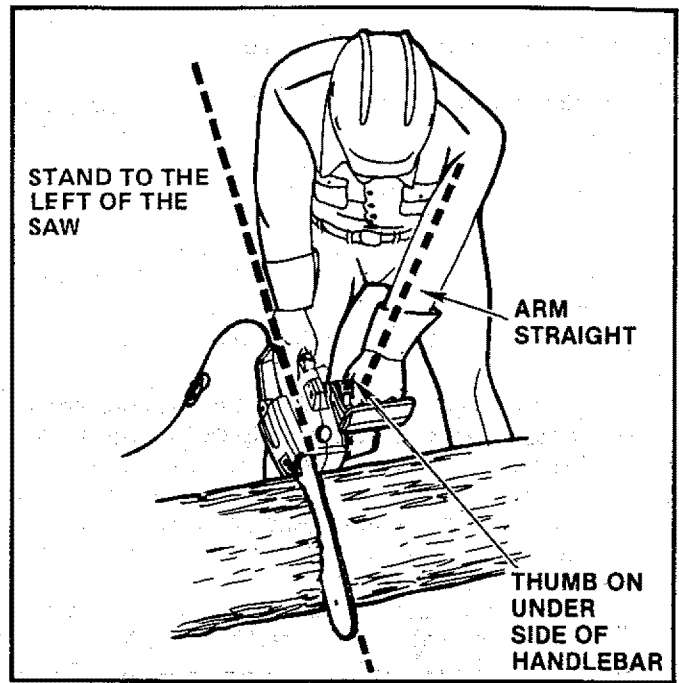

Figure 16
- d. **Stand slightly to the left side of the saw, to keep your body from being in a direct line with the cutting chain.** Figure 16.